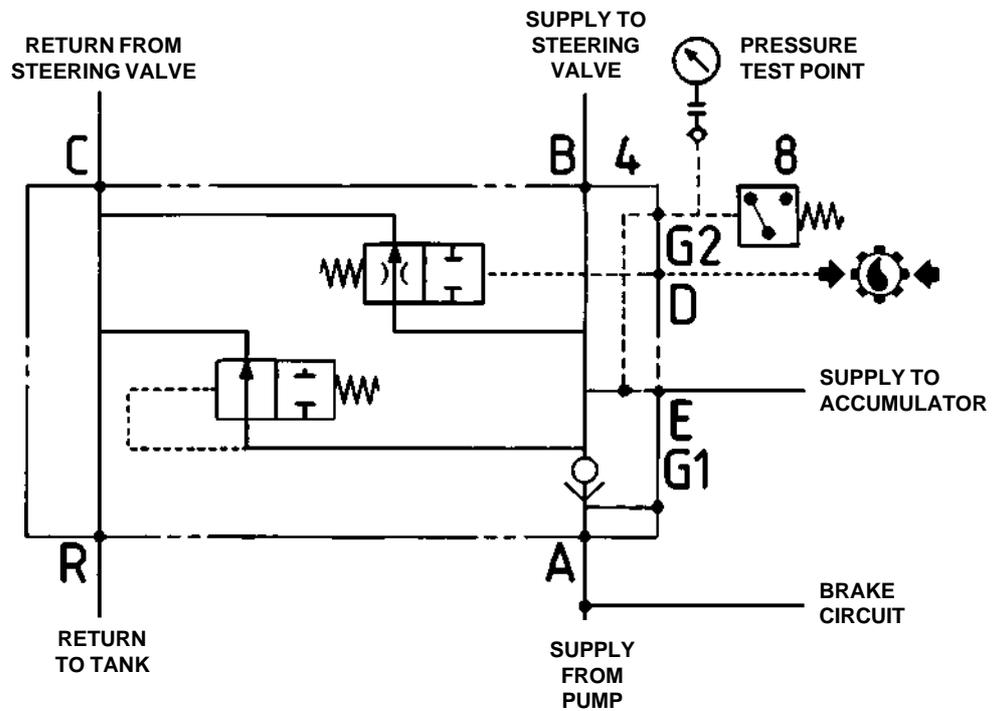

Fig. 4 - Relief Valve Open
Relief valve cartridge (8), at the lower portion of the assembly, is preset to 207 bar (3 000 lbf/in2) and seated. This valve acts as a backup in the event of a malfunction of the steering pump compensator valve. Should the compensator valve allow steering system pressure to exceed the preset pressure of relief valve cartridge (8), valve will open and relieve excess oil pressure to the steering and brake control tank. Refer to Fig. 4.
Should pressure in any of these circuit lines exceed the preset pressure setting on relief valve cartridge (8), the relief valve will open and oil will exit through port 'R' to tank. Refer to Fig. 4.